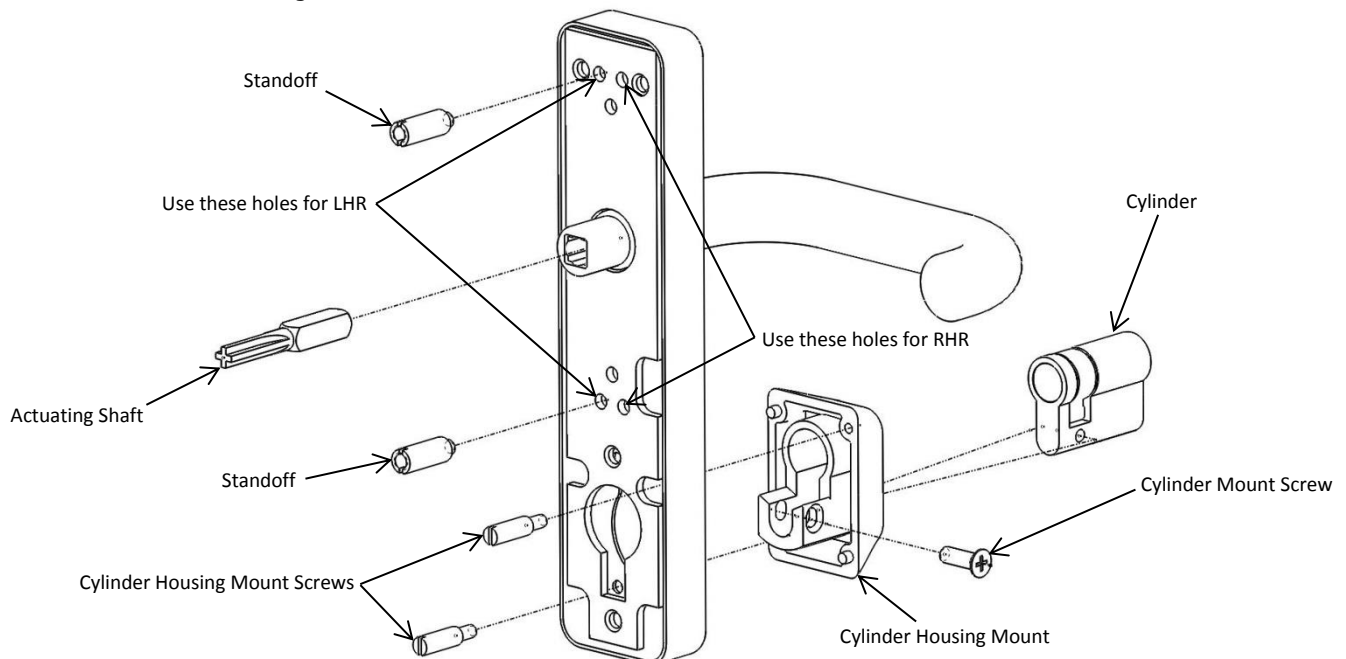

Figure 2
- a. Install the standoffs in the proper hole based off handing and figure 2.
- b. Install cylinder with the provided screw as shown in figure 2.